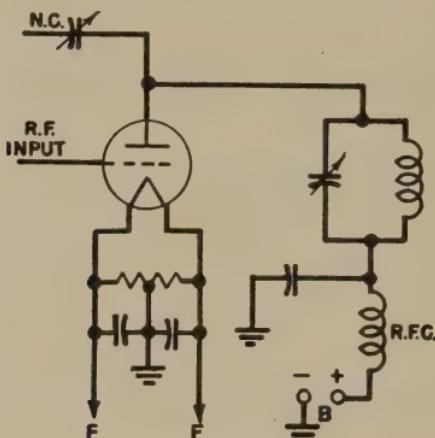

FIG. 4-21.—Simple series-fed plate arrangement.
*Ans.* Figure 4-21 illustrates a simple series-fed plate radio frequency amplifier.